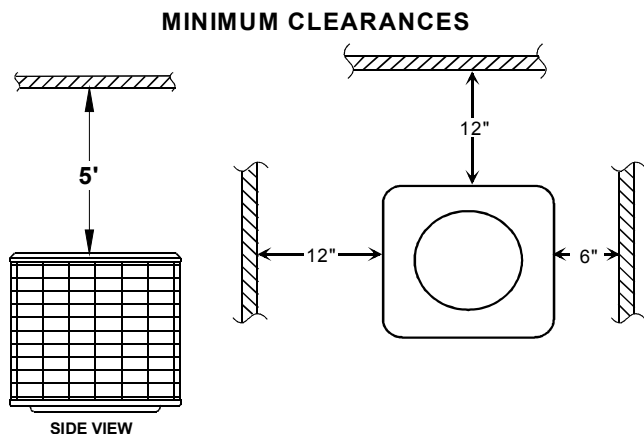

Figure 1
This unit is for outdoor installation only. The unit cannot be completely enclosed. At least one side must be unrestricted. Refer to Figure 1 for clearances from the sides and top of the unit to walls and other objects.
If installing two or more units at the same location, allow at least 24 inches between the units when using the 6"-12"-12" guidelines in Figure 1. The space between two units may be reduced to 12" if the clearances in Figure 1 are increased to 12"-24"-24".
- In accordance with the minimum clearances described in Figure 1.